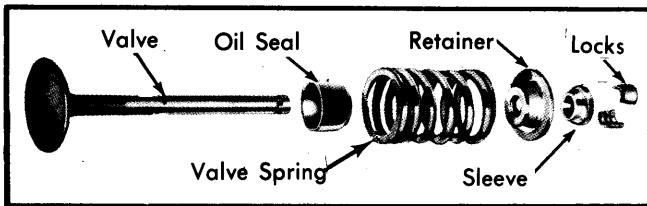

Fig. 3 Exploded View of Valve Assembly
4) Using valve spring compressor tool (T65P-6513-A), compress valve spring and remove retainer locks, sleeve, spring, retainer and valve spring. Remove valve stem seal. Do not remove air pressure as this will allow valve to fall into cylinder if piston has been forced to bottom of cylinder. See Fig. 3.